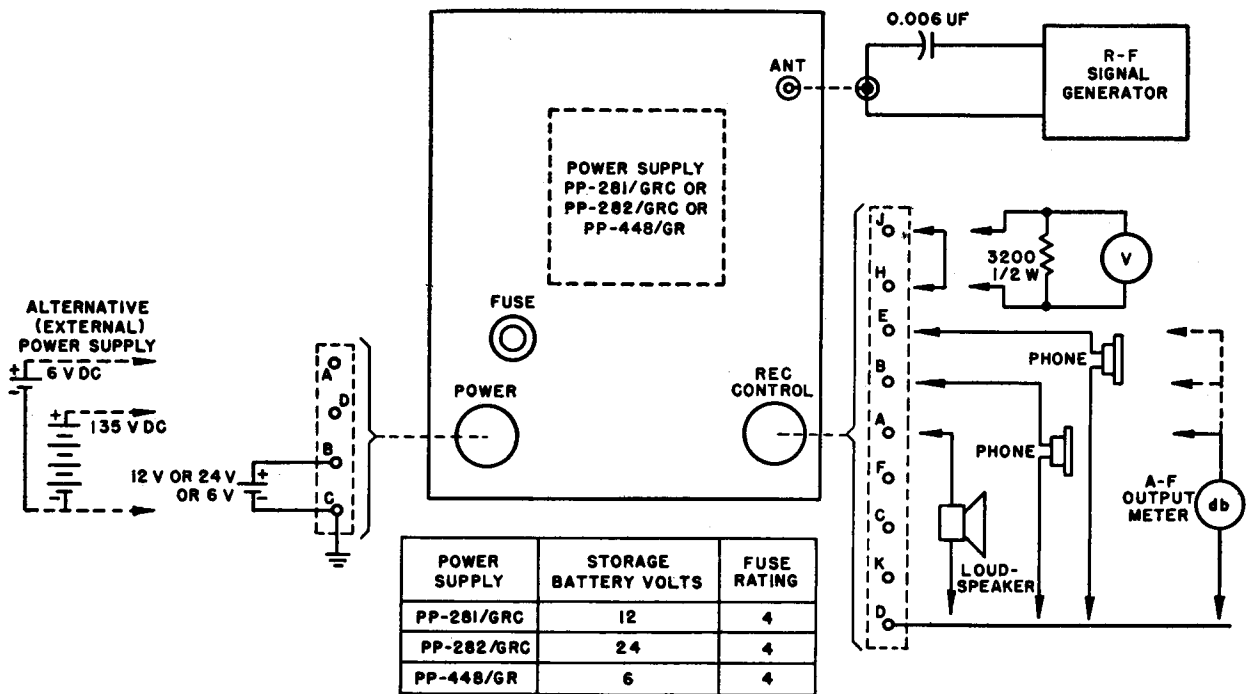

Figure 24. Test set-up connections, functional diagram.
41. Test Bench Set-Up for Operational Checks (fig. 24)
If the receiver is to be tested apart from the components with which it normally is associated in the operating installation, it is necessary to install a vibrator power supply unit and a source of operating power (or some other power supply combination), audio receiving devices (a headset and loudspeaker), measuring instruments, and test signal sources. Test instrument and signal source connections are to be made as called for in the individual test procedures. External connections are to be made as shown in figure 24 and as follows: To connect the audio device, prepare a suitable cable and fit one end with a connector to mate with REC CONTROL connector J-8. The cable is to be made of four 16-gage wires (or heavier wires) connected to terminals E, A, B, and D (ground) of J-8.
Preliminary	Set up the receiver as shown in figure 24 and as described in paragraph 41. Turn switch S-1 to 6, 12, and 24 VOLTS if a vibrator power supply is used. Turn to EXTERNAL SUPPLY if an external power source is used. Turn S-3 to DIAL LIGHT OFF Turn VOLUME control to extreme clockwise position. Turn SQUELCH control to extreme clockwise position.